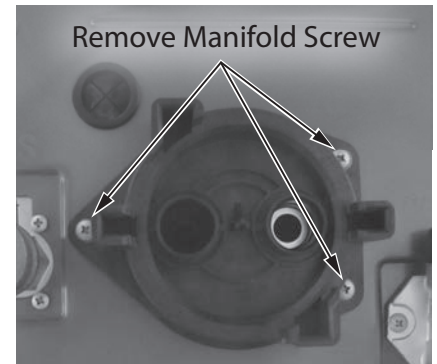

Figure 244 - Remove manifold screws
- 16** Locate the three (3) screws securing the cartridge manifold to the underside of the water heater cabinet as shown in Figure 244. Use a Phillips screwdriver to remove screws. Place screws aside in a safe place for reinstallation.